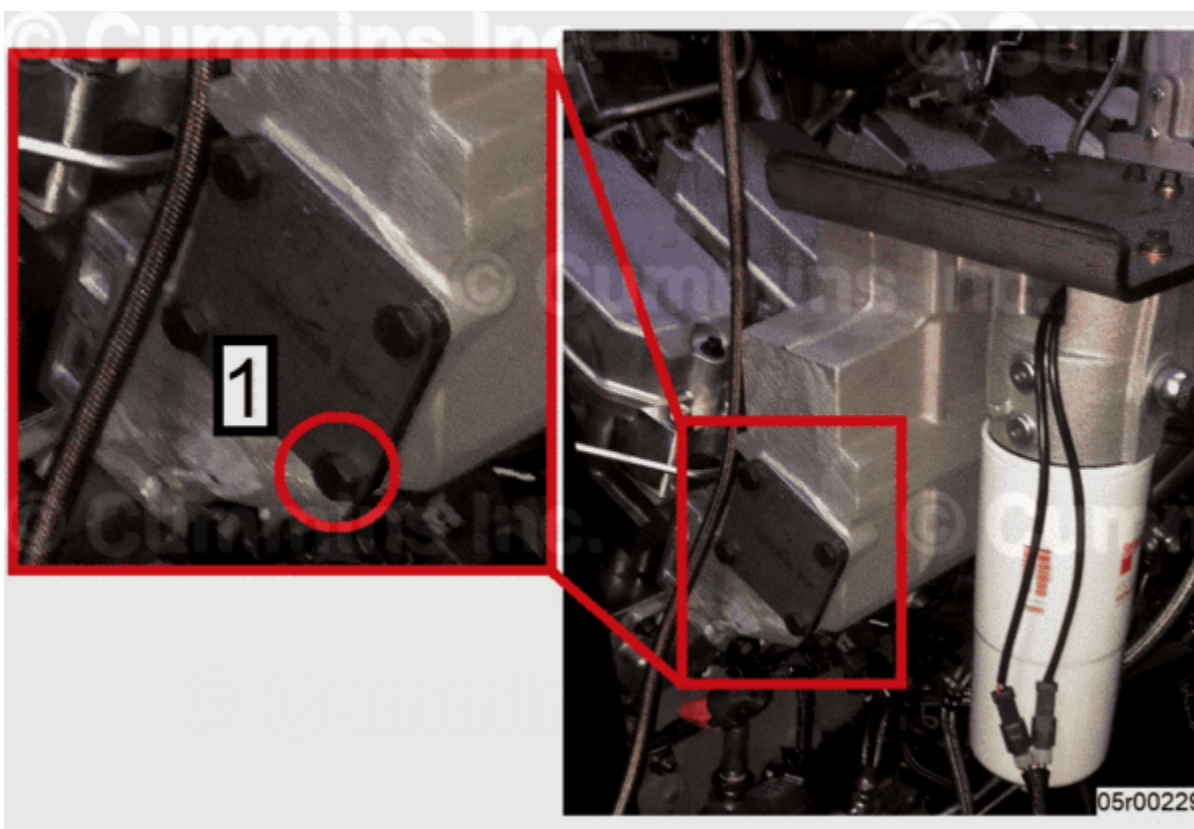

Figure 4, Capscrew Installed in Intake Manifold Cover Plate.
7. Hold clip and insert 5 mm [1/4 in] longer capscrew (Figure 4, Item 1) provided from kit and install in the intake manifold cover plate or return line bottom threaded hole.